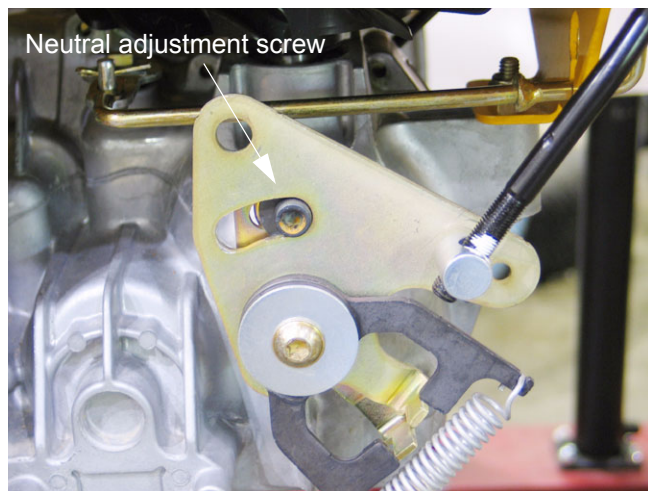

Figure 7.11
- 7.11. The socket head cap screws that secure the neutral return assemblies to the EZTs act as a travel stop at the EZT end of the linkage. The lap bar pivot brackets should contact the stop screws before the socket head cap screw contacts the end of the slot on the neutral bracket. See Figure 7.11.